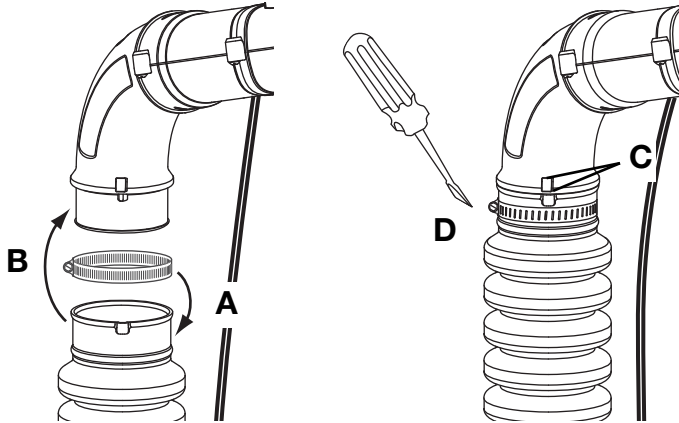

Fig. 1
2. Slide the end of the **Flex Tube** with the clamp on it over the elbow tube (Fig. 1, B).
3. Align the bump on the **Flex Tube** with the bump on the elbow tube (Fig. 1, C).
4. Tighten the screw on the hose clamp to secure the **Flex Tube** to the elbow tube (Fig. 1, D).